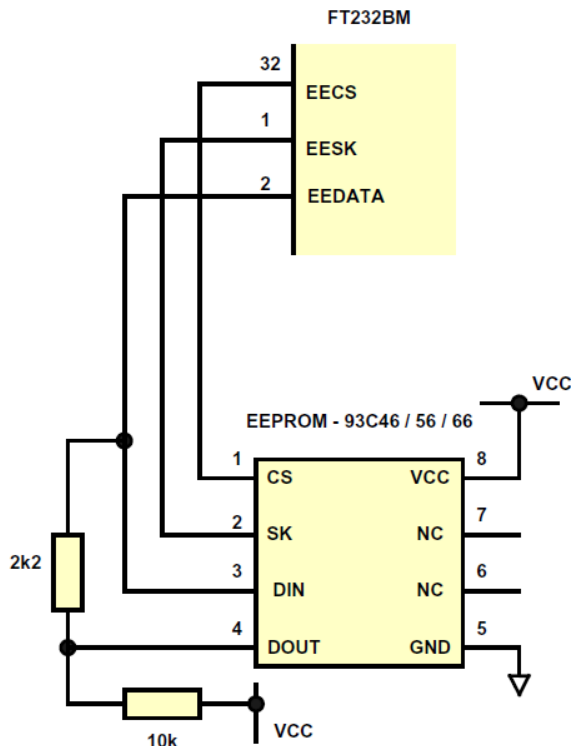

Figure 7.3 EEPROM Configuration
Figure 7.3 illustrates how to connect the FT232BM to the 93C46 (93C56 or 93C66) EEPROM. EECS (pin 32) is directly connected to the chip select (CS) pin of the EEPROM. EESK (pin 1) is directly connected to the clock (SK) pin of the EEPROM. EEDATA (pin 2) is directly connected to the Data In (Din) pin of the EEPROM. There is a potential condition whereby both the Data Output (Dout) of the EEPROM can drive out at the same time as the EEDATA pin of the FT232BM. To prevent potential data clash in this situation, the Dout of the EEPROM is connected to EEDATA of the FT232BM via a 2.2K resistor.
Figure 7.3 illustrates how to connect the UART interface of the FT232BM to a TTL – RS485 Level Converter I.C. to make a USB => RS485 converter. This example uses the Exar/Sipex SP481 device but there are similar parts available from Maxim and Analog Devices amongst others. The SP481 is a RS485 device in a compact 8 pin SOP package. It has separate enables on both the transmitter and receiver. With RS485, the transmitter is only enabled when a character is being transmitted from the UART. The TXDEN pin on the FT232BM is provided for exactly that purpose and so the transmitter enable is wired to TXDEN. The receiver enable is active low, so it is wired to the PWREN# pin to disable the receiver when in USB suspend mode.